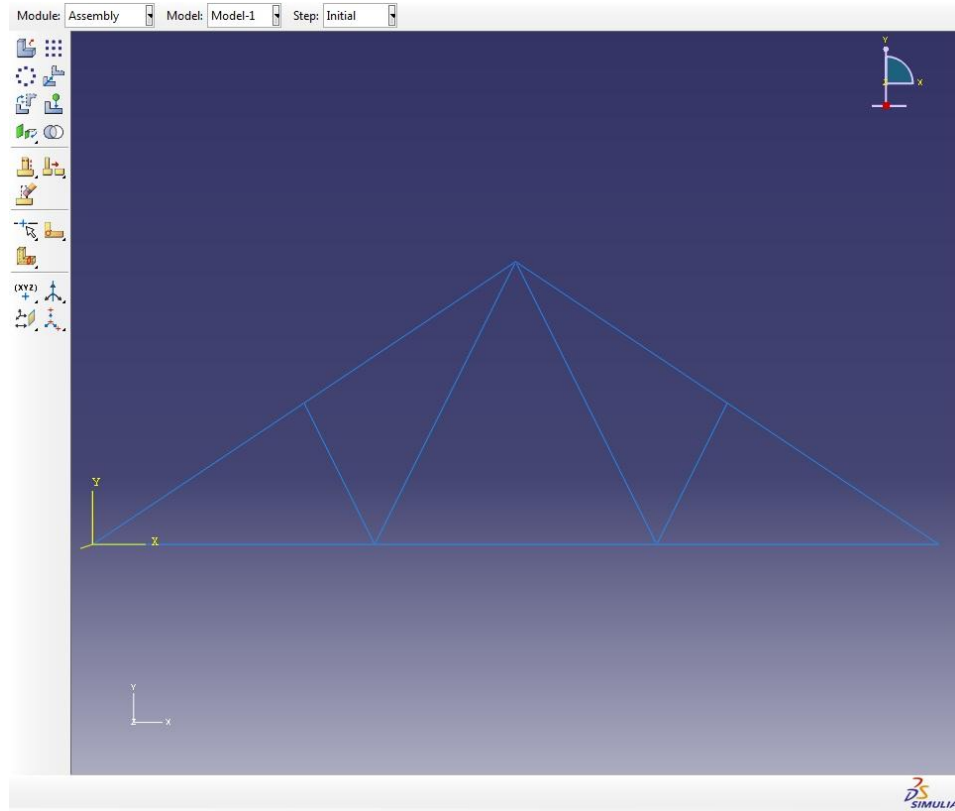

Figure 19. Create Instance
- Click **OK**. If this step was done correctly the model should turn a blue color (Figure 19).